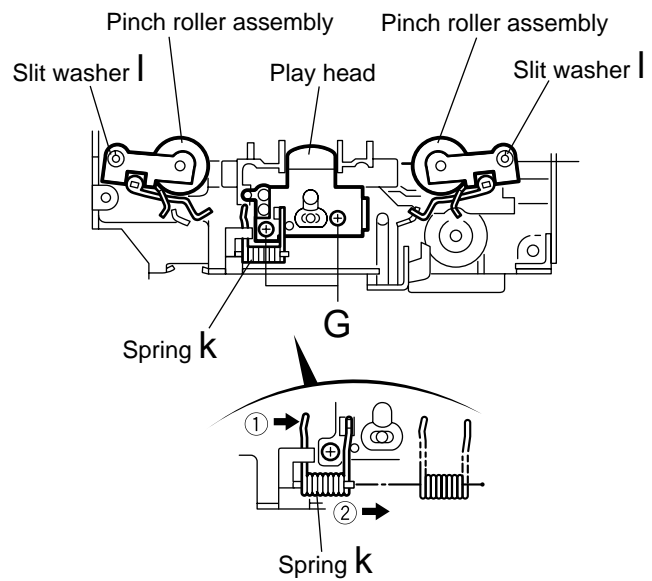

Fig.7
■ Removing the play head / pinch roller assembly (twin set) (See Fig.7)